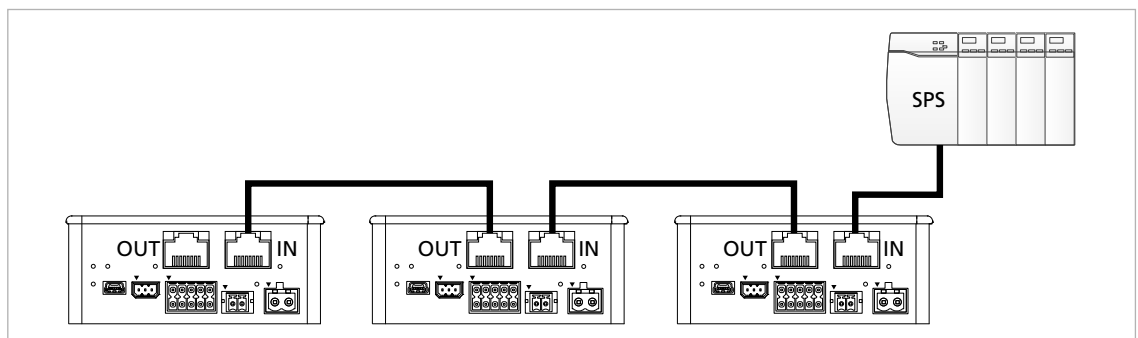

Fig. 2: Connection to the EtherCAT network
2. Connect the EtherCAT IN port to the master side port (see Fig. 2).